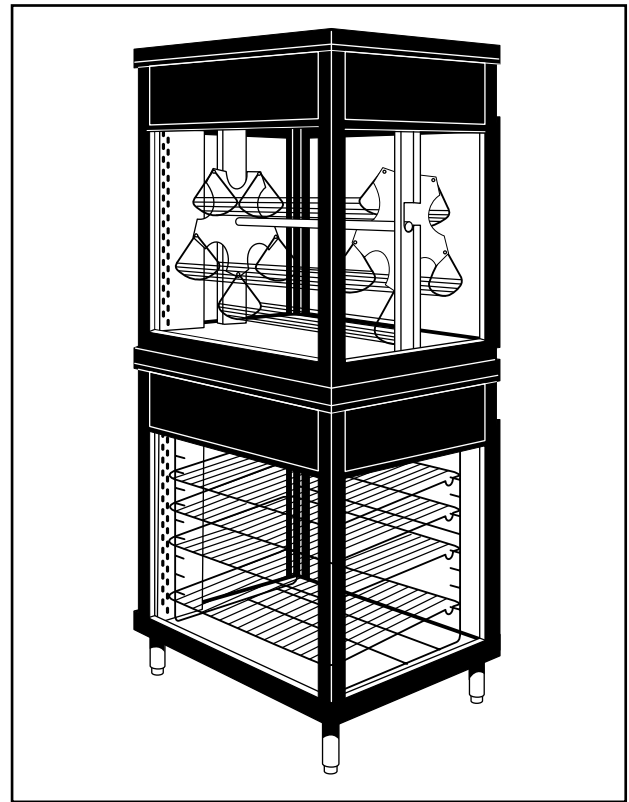

Figure 6. Stacking WFST Units.
4. Remove the four top cover screws from the painted cover and position the top stacking brackets on the unit. Secure using the same holes and screws. See **Figure 6**.
NOTE: *For stacked units the 6" (15 cm) stainless steel legs **cannot** install in the bottom of the cabinet. Always use the base and stainless steel legs provided when stacking units. **See Figure 6.***